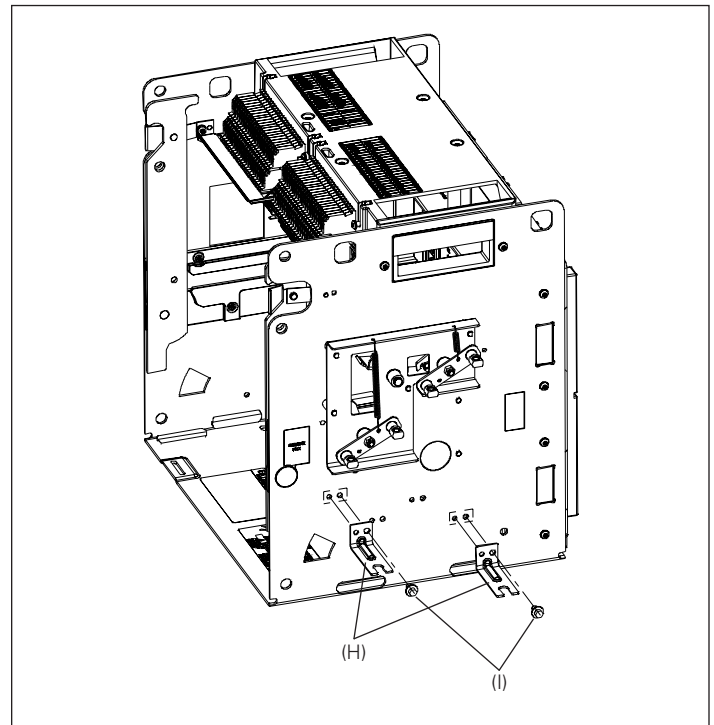

Figure 10. Details for Step 6
Fasten two cable brackets (G) to the drawout cassette's right-side sheet just below the interlock assembly (mounted in Step 5) using two M6 x 10 mm thread-forming screws (H) as shown in Figure 10. Torque to 7,3–9,6 N·m (65–85 in-lb).